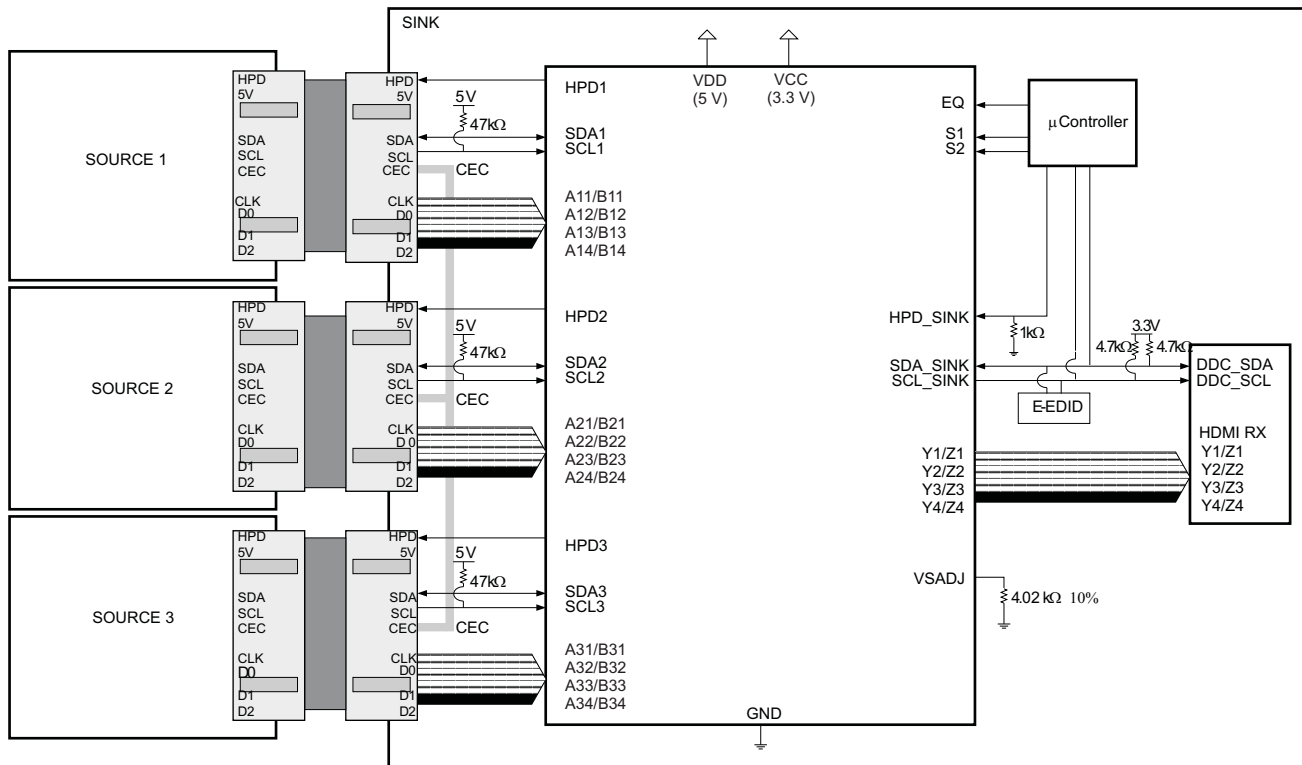

Figure 18. Three-Port HDMI Enabled DTV with TMDS351 – CEC Commands Passing Through
The TMDS351 supports a DTV with up to three HDMI inputs when used in conjunction with a signal-port HDMI receiver or four HDMI inputs when used in conjunction with a dual-port HDMI receiver. Figure 18 and Figure 19 show simplified application block diagrams for the TMDS351 in different DTVs with different consumer electronic control (CEC) requirements. The CEC is an optional feature of the HDMI interface for centralizing and simplifying user control instructions from multiple audio/video products in an inter-connected system, even when all the audio/video products are from different manufacturers. This feature minimizes the number of remote controls in a system, as well as reducing the number of times buttons need to be pressed.
In Figure 18, the DTV does not have the capability of handling CEC signals, but allows CEC signals to pass over the CEC bus. The source selection is done by the control command of the DTV. The user cannot force the command from any audio/video product on the CEC bus. The selected source reads the E-EDID data after receiving an asserted HPD signal. The micro-controller loads different CEC physical addresses while changing the source by means of the S1 and S2 pins.
• Changed From: <a href="#">Figure 19</a> To: <a href="#">Figure 18</a> .....	<a href="#">19</a>
• Changed From: <a href="#">Figure 18</a> To: <a href="#">Figure 19</a> .....	<a href="#">20</a>